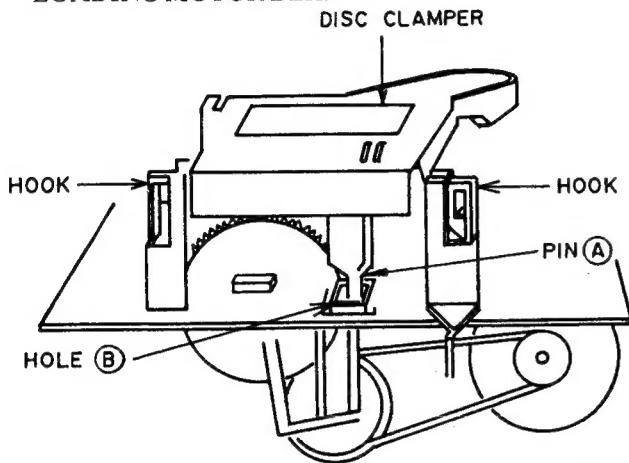

Fig. 4-3
- 1) Remove DISC CLAMPER while releasing the HOOKS as shown Fig.4-3.